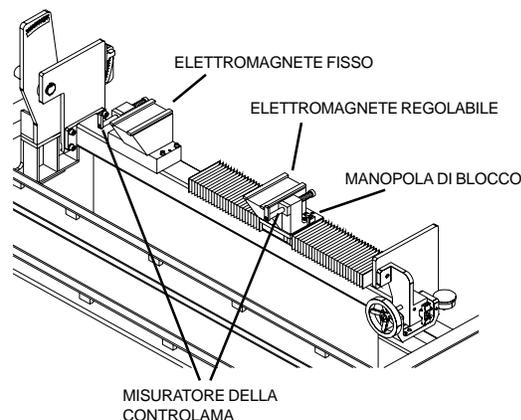

FIG. 4
**SUPPORTO DELL'ELETTROMAGNETE FISSO (FIG.4)**
**SUPPORTO DELL'ELETTROMAGNETE REGOLABILE (FIG. 4)**
**MISURATORE DELLA CONTROLAMA (FIG. 4)**